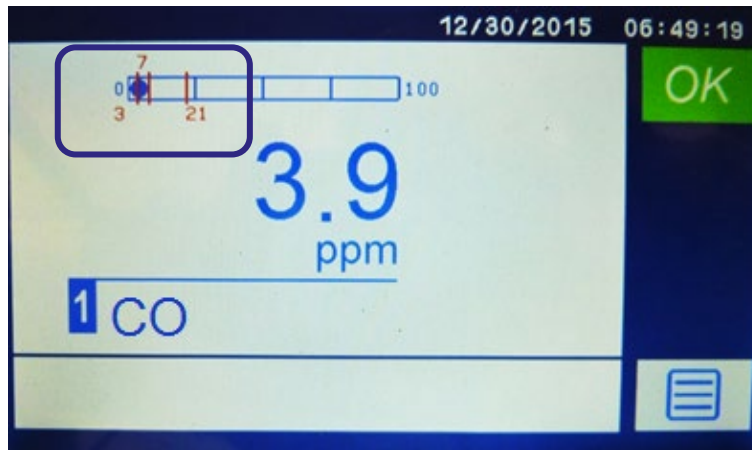

Figure 7-11: Home screen showing alarm settings as red lines and text on the bar graph
5. Figure 7-11 displays the alarm setting thresholds on the home screen as red lines and text on the bar graph at the top of the screen.